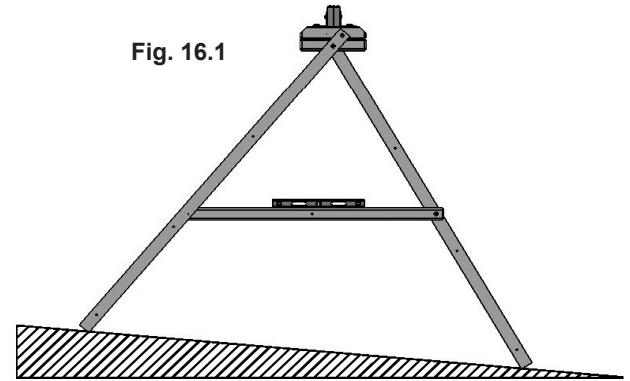

Fig. 16.1
**A:** To adjust for uneven ground, raise or lower the (161) Support Cross on the (153) SW Post. Make sure the Support Cross is level prior to attaching with the lag screws. (fig. 16.1 and 16.2)